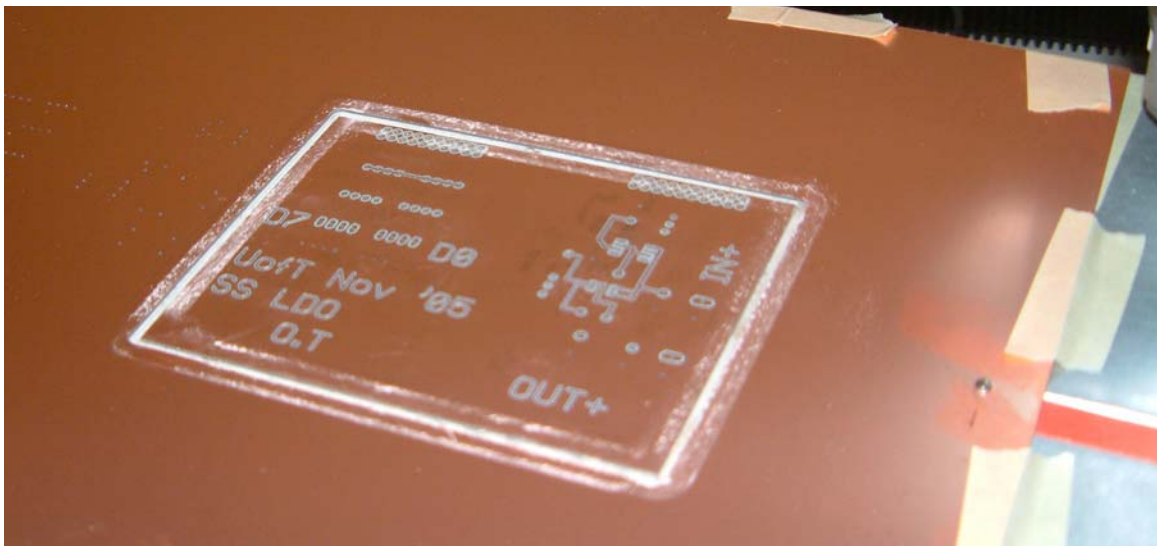

Figure 40: Completed PCB board. The PCB has been cut out of the copper board.
12. Once completed (see Figure 40) click *goto > exchange* and remove the router bit.